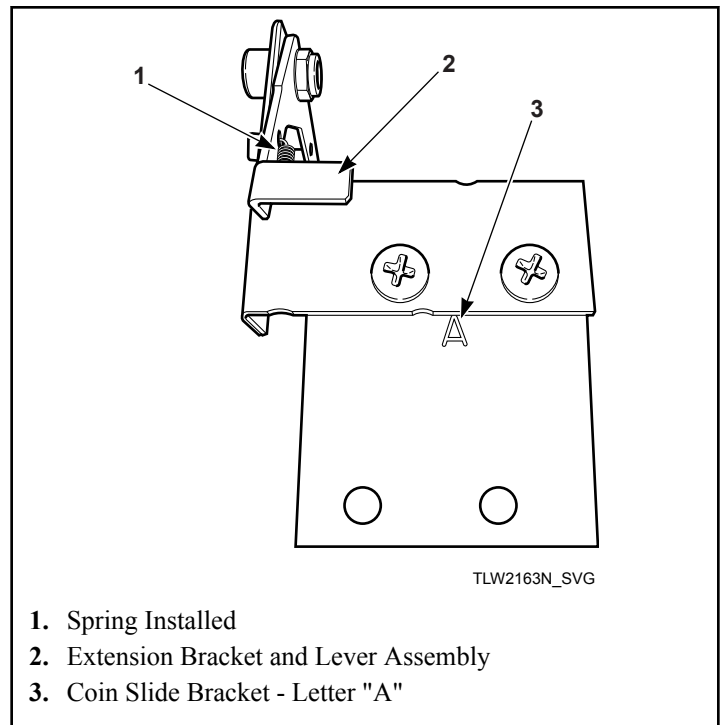

Figure 41
5. Install extension bracket and lever assembly onto coin slide bracket using two screws and locknuts. Refer to *Figure 41*.
- IMPORTANT: Install coin slide bracket with side marked "A" facing up and toward extension bracket and lever assembly. Refer to *Figure 41*.**